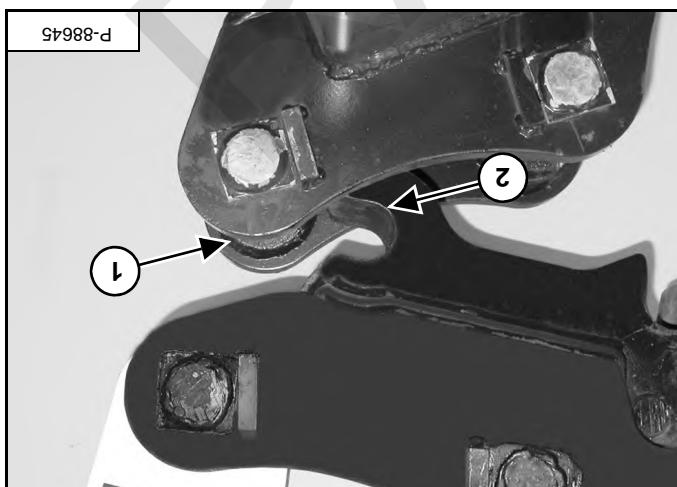

Figure 22
Inspect the manual spring loaded coupler for wear or damage. Inspect the mounting pins (item 1) (on the attachment) and hooks (item 2) [Figure 22] for wear or damage. Apply a light coat of grease to the ends of the pin (item 2)